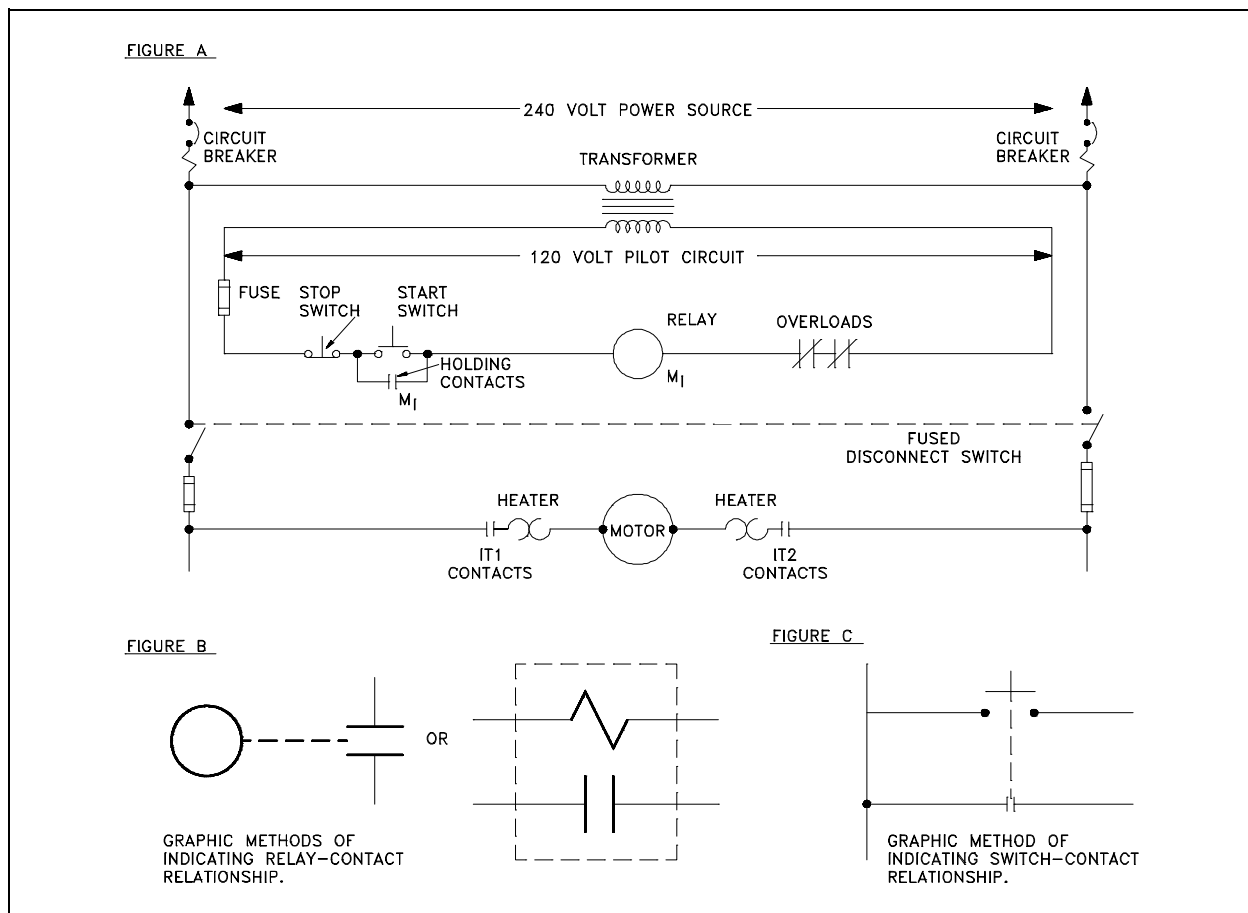

Figure 14 Examples of Relays and Relay Contacts
To associate the proper relay with the contact(s) that it operates, each relay is assigned a specific number and/or letter combination. The number/letter code for each relay is carried by all associated contacts. Figure 14 (A) shows a simple schematic containing a coil (M1) and its contact. If space permits, the relationship may be emphasized by drawing a dashed line (symbolizing a mechanical connection) between the relay and its contact(s) or a dashed box around them as shown in Figure 14 (B). Figure 14 (C) illustrates a switch and a second set of contacts that are operated by the switch.